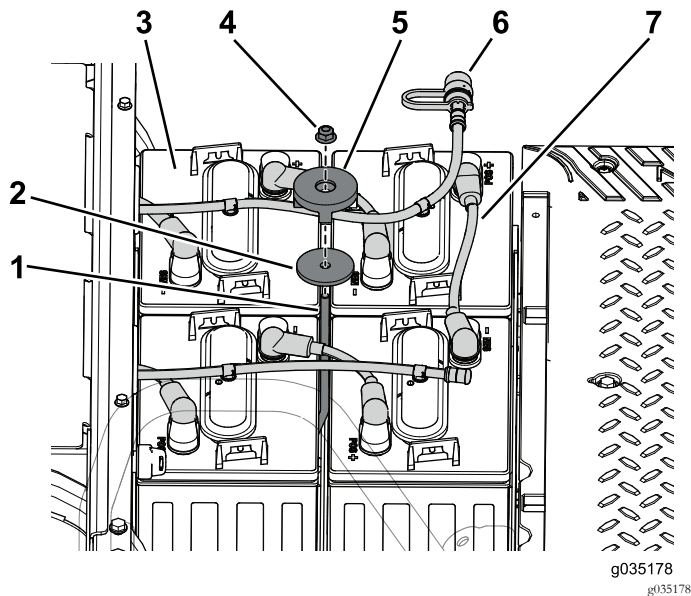

Figure 98
1. Install the 4 batteries into the front battery tray (Figure 98).
6. Install the watering house to the batteries (Figure 98).